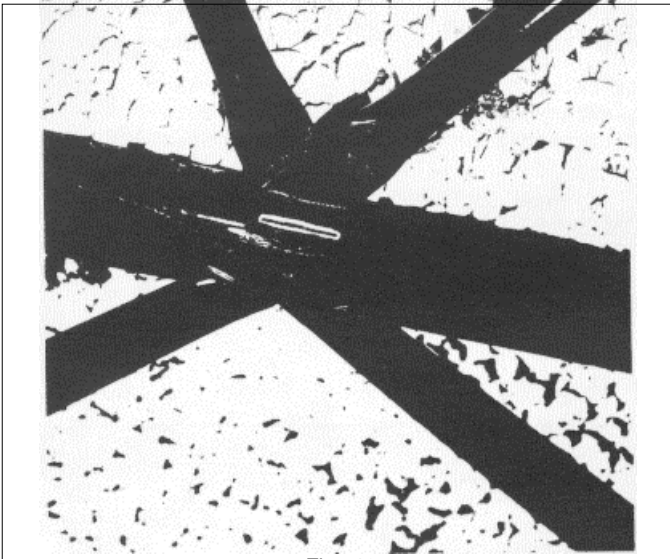
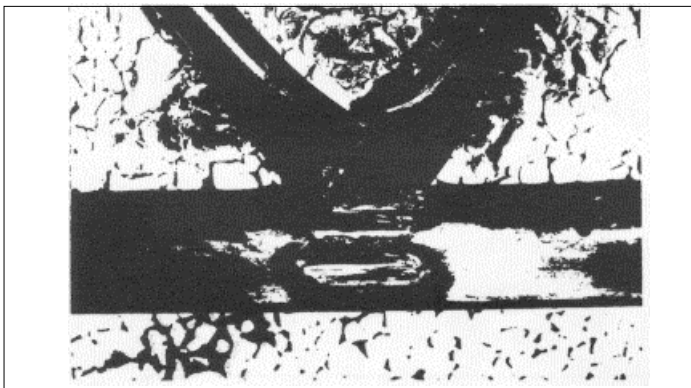

Fig. 19
Fig. 20
(2) Removal of the lattice or diagonal is most easily accomplished on flattened diagonals, single flattened lattice, pinched lattice and pinched diagonals by cutting well above the weld and manually flexing the tube until it separates just above the weld. See Figure 19. For double lattice connections of the flattened type and for coped lattice and diagonals, a hack saw or similar cutting tool must be used. See Figure 20 and 21. Note: Be careful not to damage main chord member.